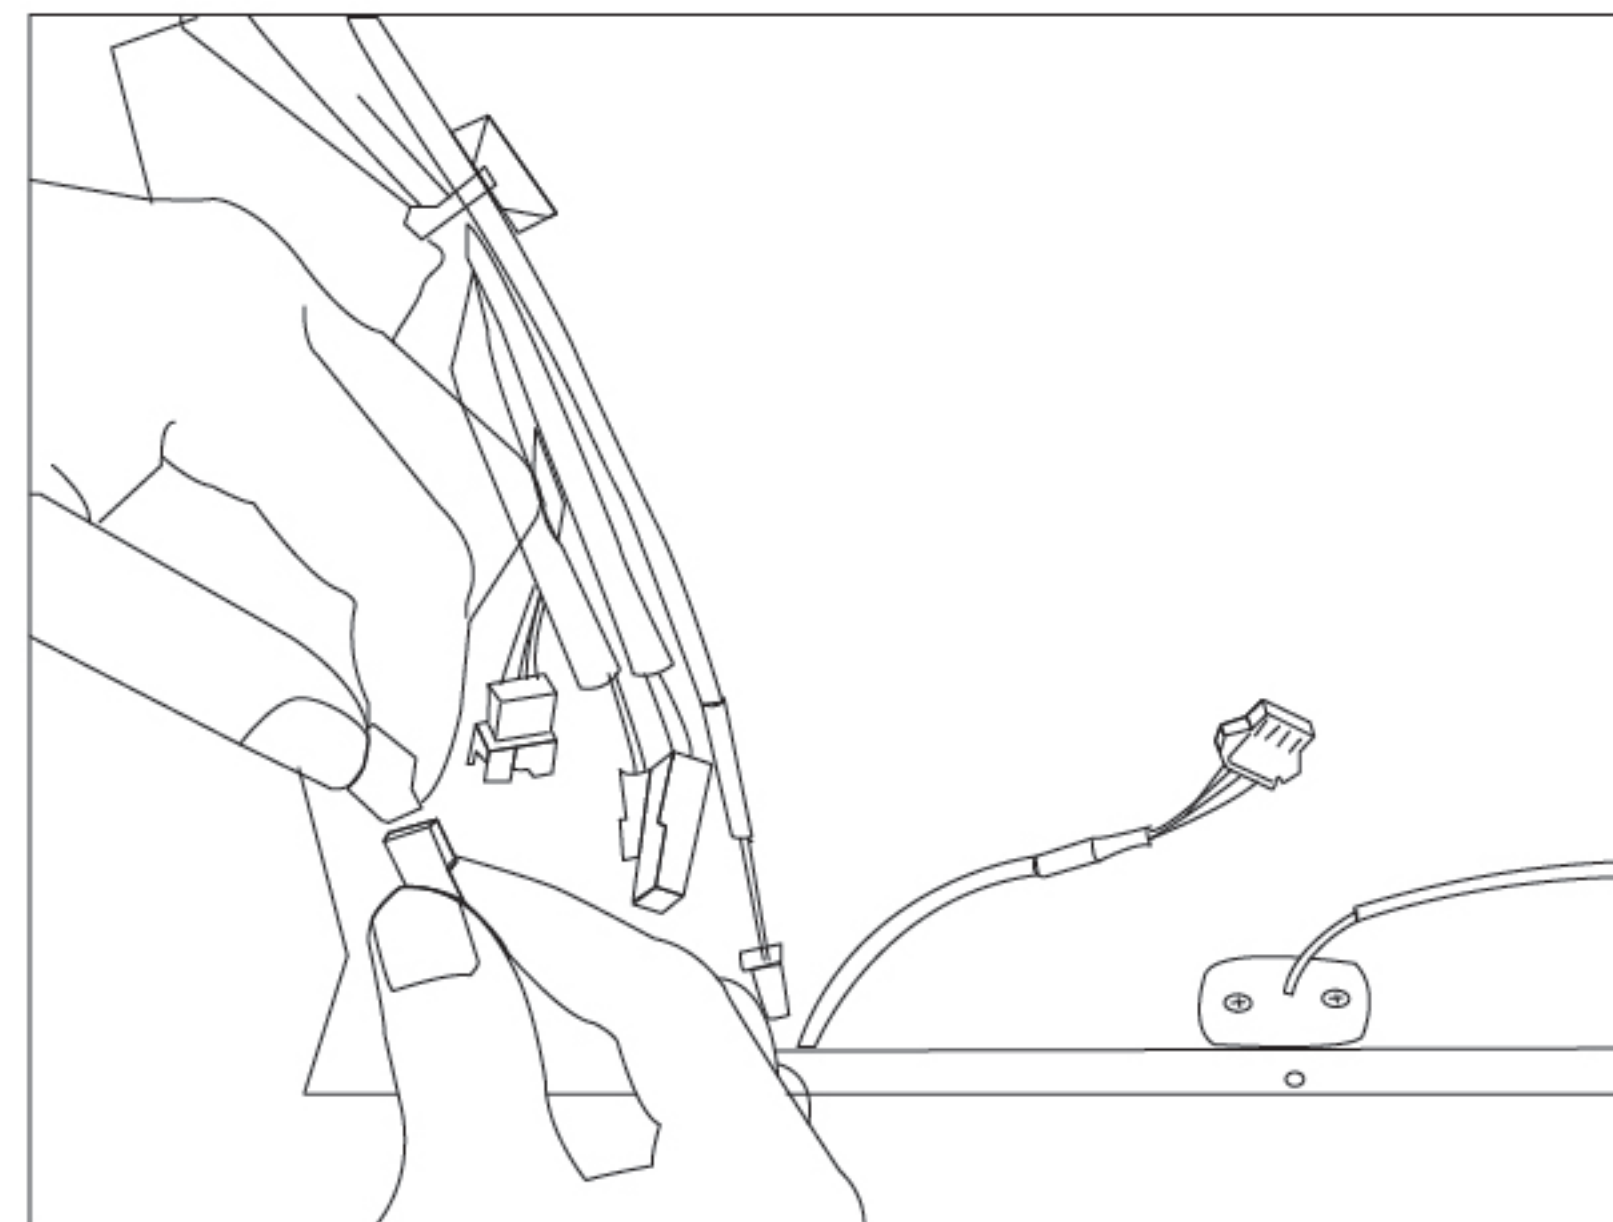

Fig.17
7. Connect the switch and push rod connectors (Only connect the white connector, the red connector is temporarily disconnected) (as shown in Fig. 17).